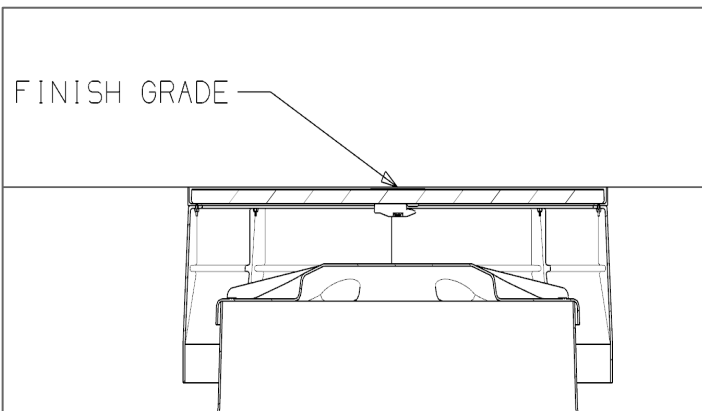

Figure 1
**Step 1:** Mark off finish grade, (See Figure 1).